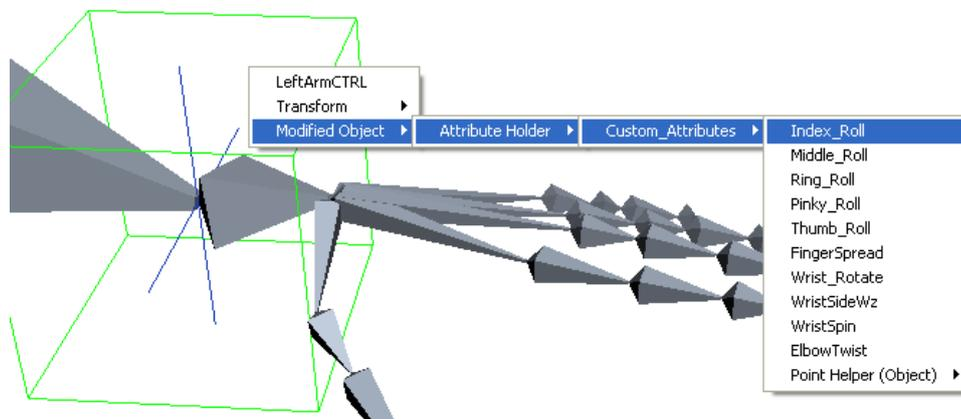

Figure 10: Selection of Master Parameter for the Index_Roll parameter
- iii. A popup will appear from which to select the parameter of the control as shown in the Figure 10: